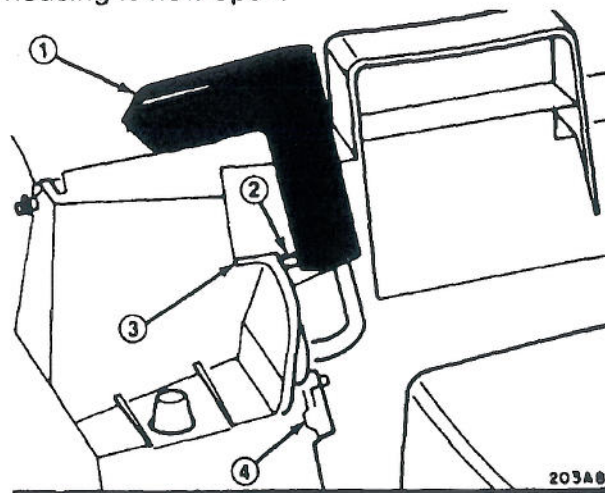

Figure 4
3. Pull chute door handle up until pin clears the bag catch (Fig. 4). Then move handle rearward until pin locks in notch at rear of bag catch (Fig. 4). The chute door in mower housing is now open.